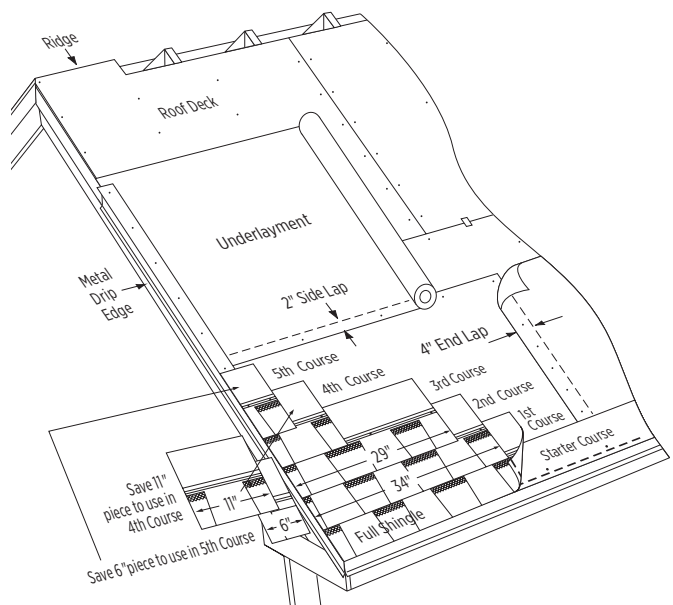

Figure 12-6: Applying the first 5 courses of Landmark TL.
1. Use CertainTeed Swiftstart® Starter, or three-tab self-sealing shingles with the lower tab portions removed. Be sure that the starter shingles are at least 7-5/8" in height. (Figure 12-6).
**1ST COURSE:** Apply a full shingle at the lower left corner of the roof. Make the lower edge and left edge lie flush with the edges of the starter course (Figure 12-6).